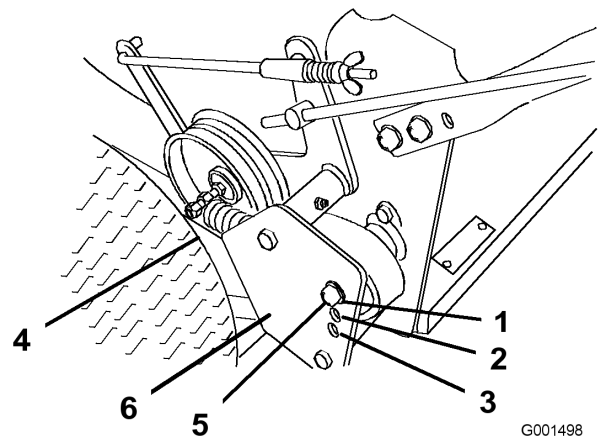

Figure 9
4. Remove the drive spring from the adjustment bolt (Figure 9).
5. Remove the locknut that secures the adjustment bolt to the drive pulley shield (Figure 9).
Note: The wheel drive tension is lowest when the bolt assembly is in Position A. The tension increases in Positions B and C (Figure 9).